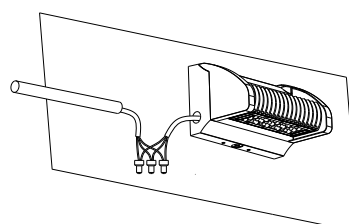

Figure 2-4
4. Fix the luminaire on the bracket; make wiring connection from side and go through isolation treatment.(Figure 2-4)